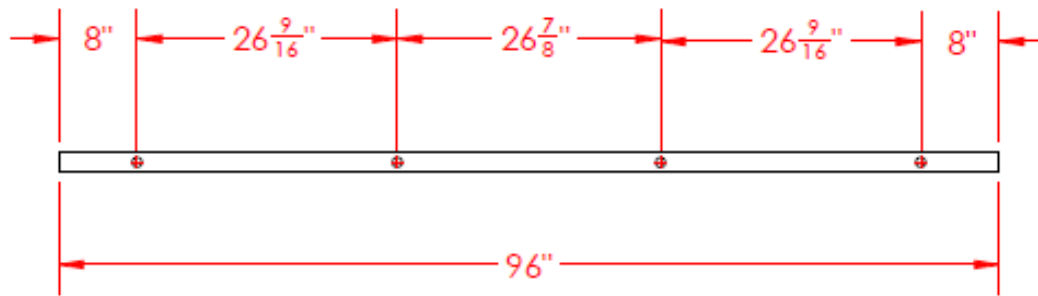

Figure 2: 2'x8' and 4'x8' Baffles
- 1) Refer to Figures 2 and 3 above for recommended corkscrew spacing. Maximum distance between corkscrew hangers should be no greater than 36".